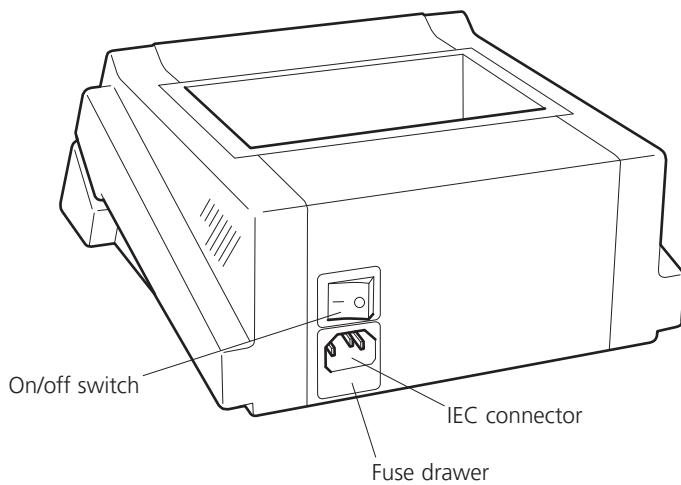

Figure 2: Rear view
- Switch on using the switch located at the rear of the instrument – see figure 2.
1. Switch on using the switch located at the rear of the instrument – see figure 2.